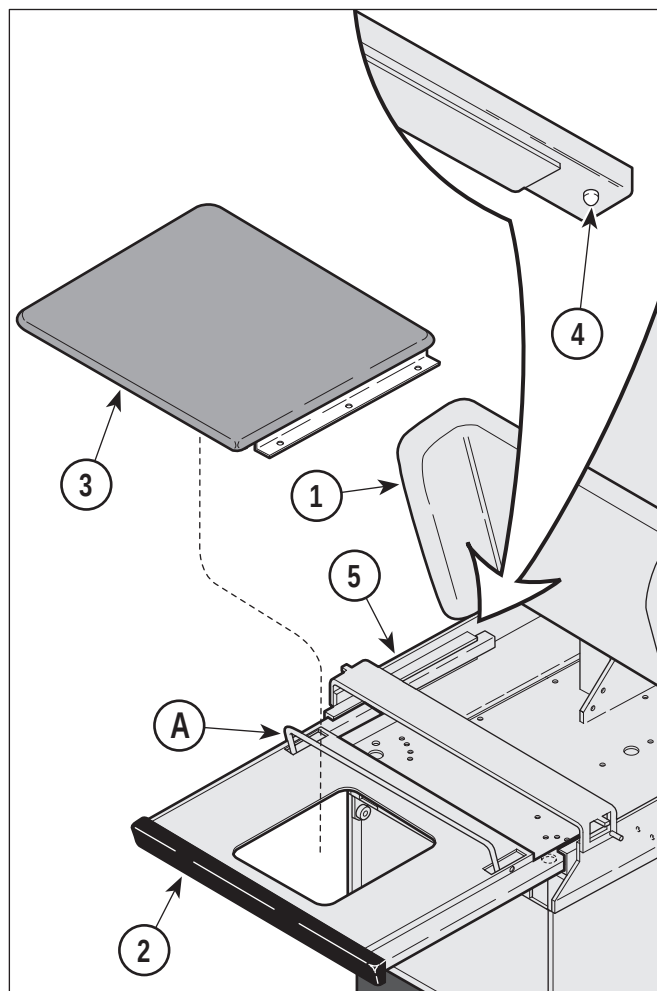

**Figure 4-7. Footrest Extension
- (1) Raise seat section (1, Figure 4-7) up.
Extend the step assembly outward to insure it locks in place. If necessary readjust the lock tabs (A, Figure 4-7). Failure to insure the step assembly locks in place could cause injury to the users.